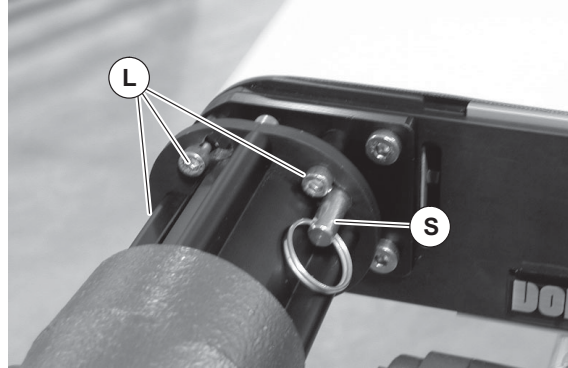

Figure 22
- a. Remove anti-rotation pin (Figure 22, item S), loosen four (4) screws (L) and rotate and remove the side drive assembly.